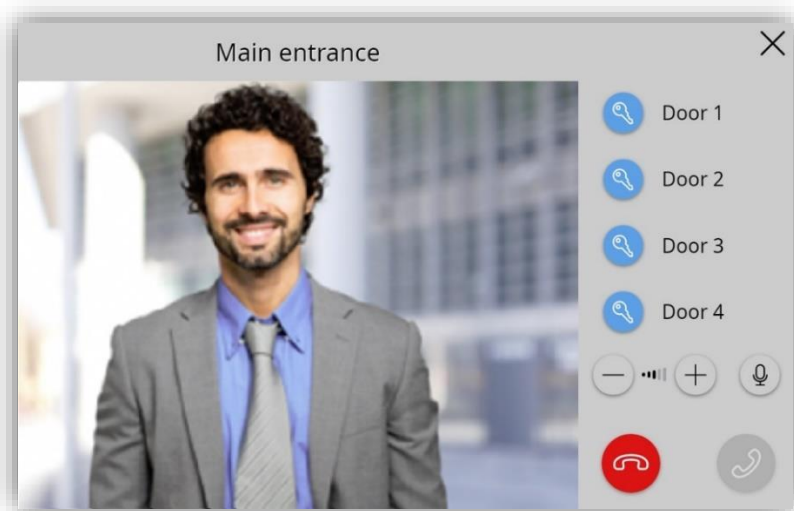

Figure 132. Ongoing call
- **Accept Call:** opens the ongoing call dialog (Figure 132) and notifies others synchronized screens in the same network that the call has been accepted:
When accepting the incoming call, the interface in Figure 132 is shown and starts the voice communication with the video intercom.